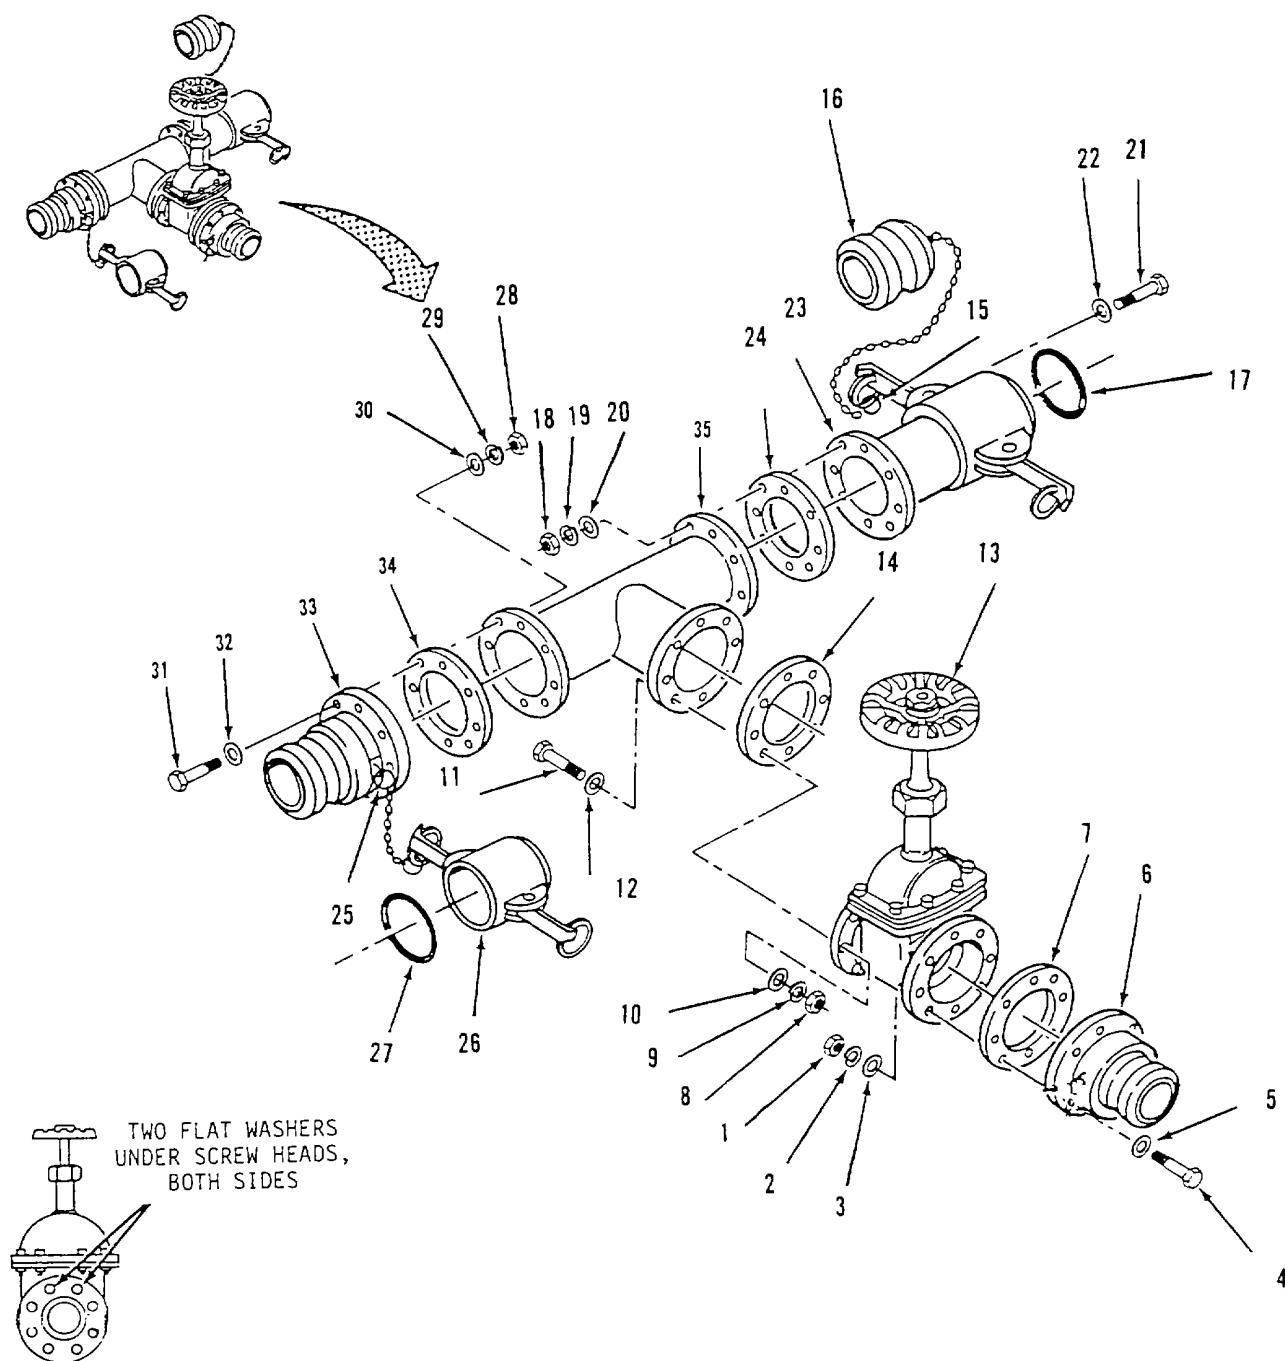

Figure 4-18.1. Tee and Gate Valve Assembly (9133-Y1) Disassembly.
- a. Disassembly. Refer to figure 4-18.1.
- (1) Remove eight nuts (1), lockwashers (2), flat washers (3), screws (4) and ten flat washers (5).
- (2) Separate male coupling (6) and gasket (7) from gate valve (13).
- (3) Remove eight nuts (8), lockwashers (9), flat washers (10), screws (11) and ten flat washers (12).
- (4) Separate gate valve (13) and gasket (14) from tee (35).
- (5) Disconnect ring (15) from female coupling (23) and remove plug (16).
- (6) Remove gasket (17) from female coupling (23).
- (7) Remove eight nuts (18), lockwashers (19), flat washers (20), screws (21), and flat washers (22).
- (8) Separate female coupling (23) and gasket (24) from gate tee (35).
- (9) Disconnect ring (25) from male coupling (33) and remove cap (26).
- (10) Remove gasket (27) from cap (26).